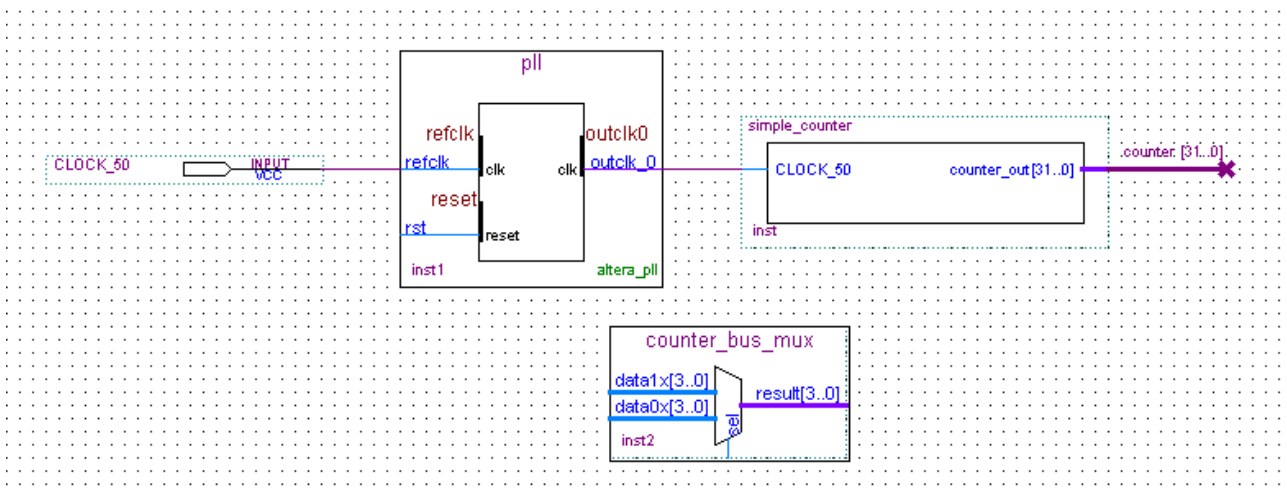

Figure 3-25 Place the lpm_mux symbol
12. Place the counter_bus_mux symbol below the existing symbols on the BDF. See **Figure 3-25**.